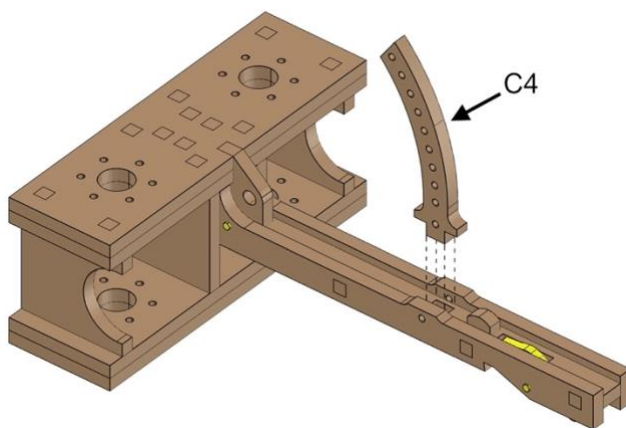

Fig. 27
- Align parts exactly as shown in *Fig. 27*.